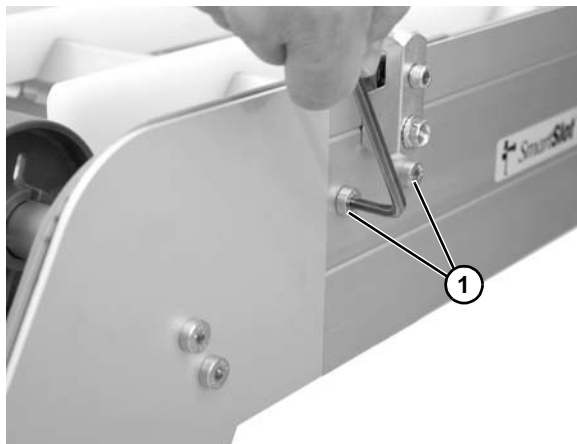

Figure 87
2. Remove two socket head screws (**Figure 87, item 1**). Repeat on other side.